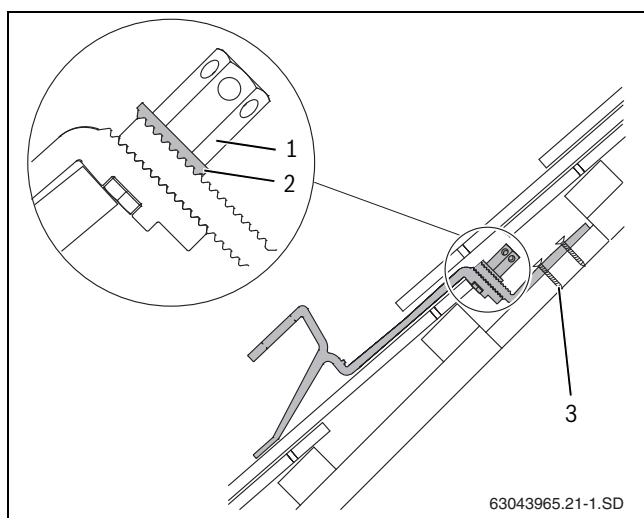

Fig. 18 Assembled roof hook. View of section with trimmed lower part of roof hook
The serrated washer (Fig. 18, [2]) must grip the serrations on the lower part of the roof hook.
- Tighten the long hexagon nut (Fig. 18, [1]). To do so, insert the size spanner into the hole in the hexagon nut and turn.
- Secure the lower part of the roof hook to the rafter in at least the first (Fig. 18, [3]) and second holes of the using suitable screws.